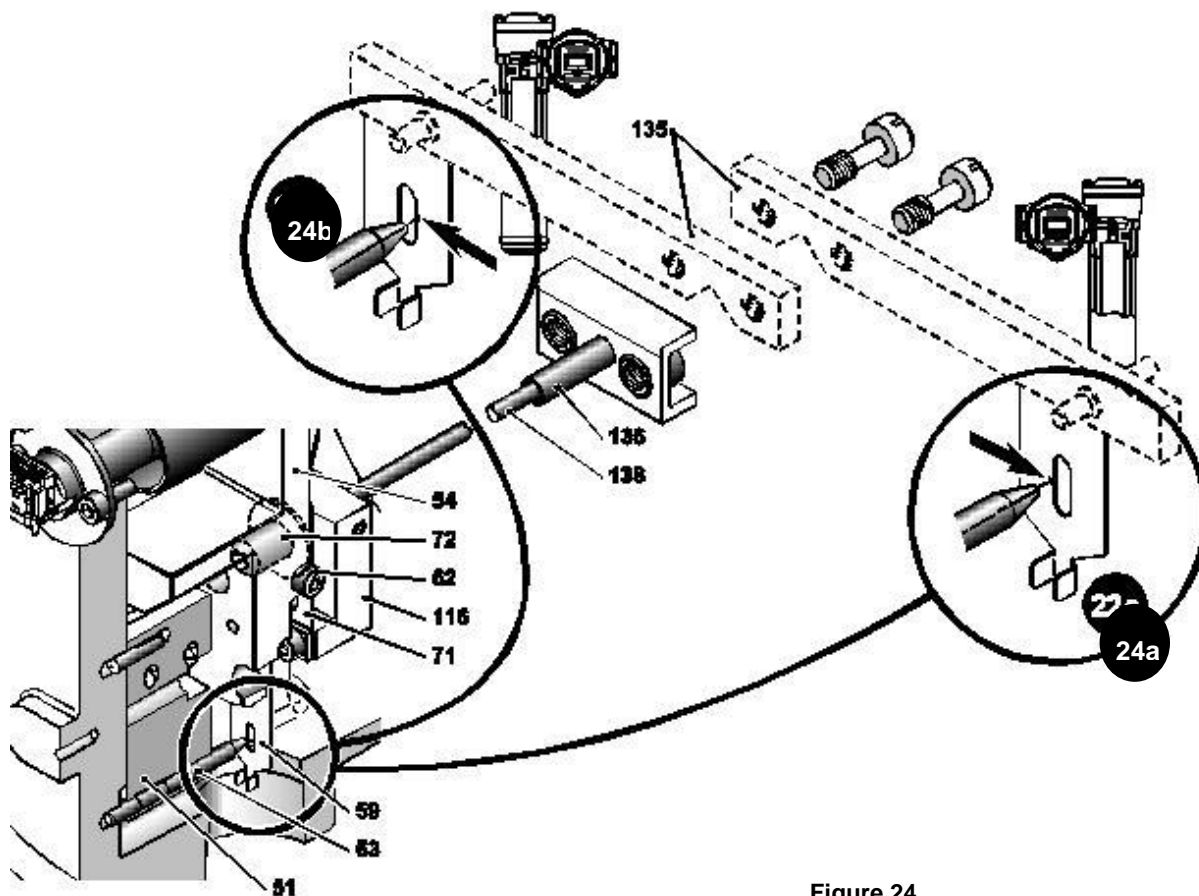

Figure 24
9.4. Mounting of DLT Case and Torque Tube Sub-Assembly (Figure 24)